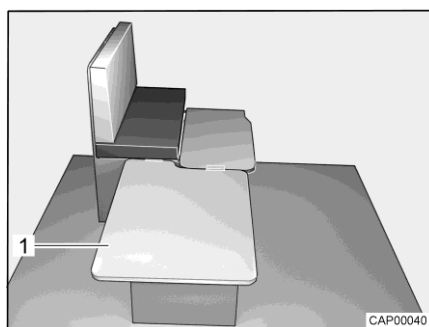

Fig. 45 During conversion
- Hook removable board (Fig. 45,1) in on the side of the bench and place it on the table.